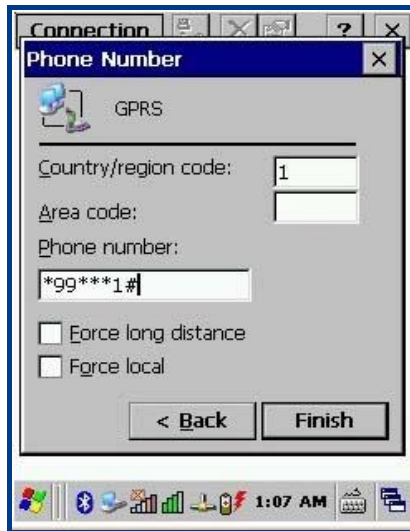

Figure 6.6 Set phone number
- F. Enter the phone number in the corresponding field. Tap "Finish" (Figure 6.6).